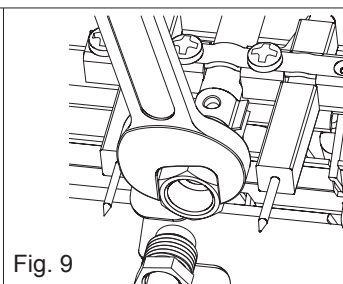

Fig. 9
- Insert the seal contained in the transformation kit (fig. 9)